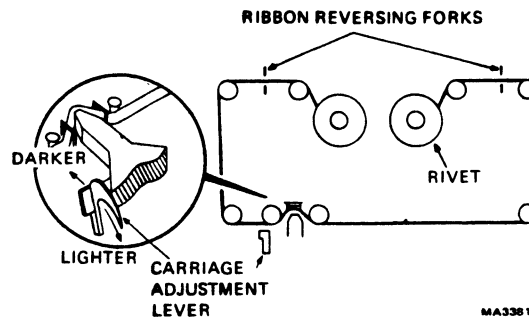

Figure 5-6 LA120 Ribbon Installation
2. Move the carriage adjustment lever away from the paper (Figure 5-6).
8. Thread the new ribbon around the print head and guides and through the ribbon reversing forks (Figure 5-6).
2. Move the carriage adjustment (Figure 5-6) lever toward the paper and make light contact with the paper or form.